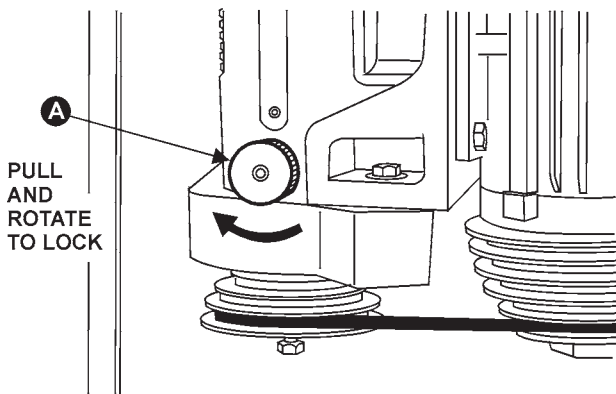

FIGURE 10
2. Lock the main shaft by opening the rear door in the cabinet and pulling out the knob (A), Figure 10, and rotating it to the right until it locks in place.
6. Unlock the shaft by rotating the lock knob (Figure 10) to the left and allowing it to snap back in.
2. Lock the main shaft (see Figure 10).
WARNING: Be sure to release the lock knob from the main shaft before starting machine (Figure 10).
Always release the main spindle from the lock knob before starting machine (see Figure 10). Your shaper is equipped with pushbutton magnetic controls. A start button, power indicator, reversing switch, and emergency stop are all located on the front of the machine.